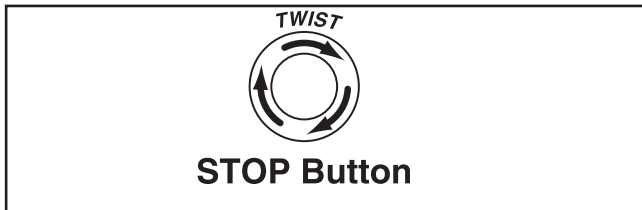

Figure 26. Resetting the switch.
4. Push the STOP button in, then twist it clockwise so it pops out. When the STOP button pops out, the switch is reset and ready for operation (see **Figure 26**).